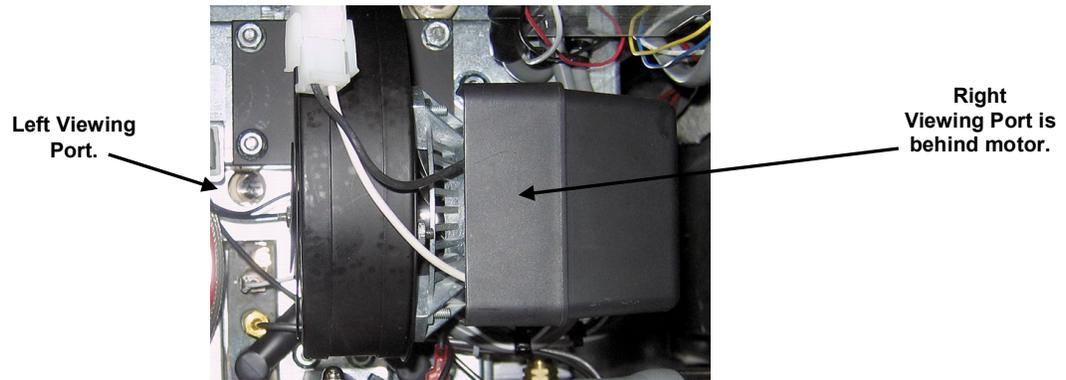

Figure 11
7. After the burners have been lit for at least 90 seconds, observe the flames through the burner viewing ports located on each side of the combustion air blower (see Figure 11).